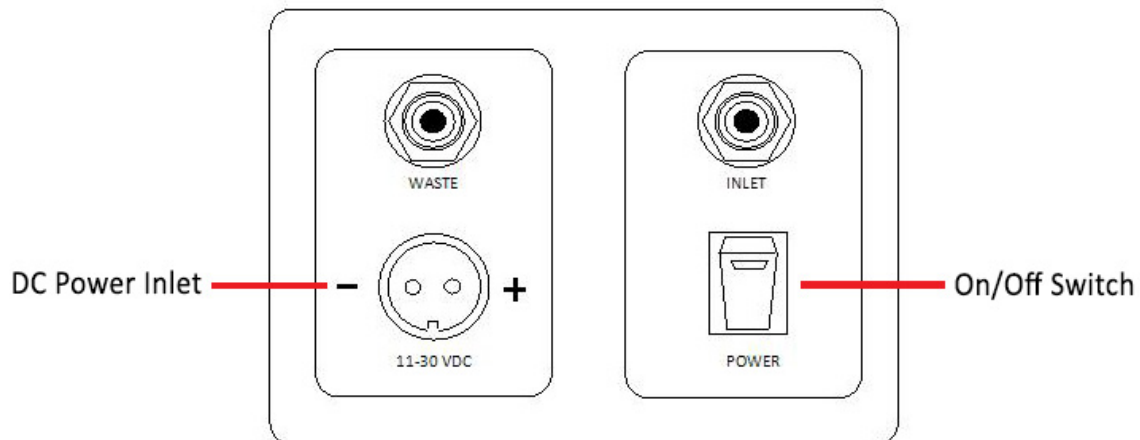

Figure 4: Power Connections and AC Voltage Selection Switch
The power connector is on the left side panel of the analyzer. (Figure 4)
Figure 4 shows the power entry connector and the power switch.
2. Unplug the power cord from the analyzer. (Figure 4)
2. Connect the power connector cord on the power supply to the 11-30 VDC port on the left side of the analyzer. (Figure 4)